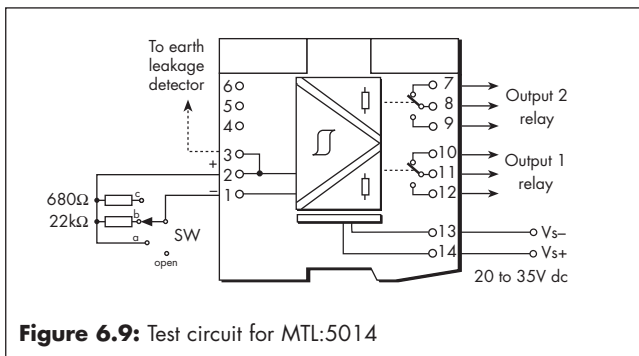

Figure 6.9: Test circuit for MTL5014
Make the relevant safe- and hazardous-area connections shown in figure 6.9 for the tests listed in table 6.3. (Figure 6.8 shows the switch positions for configuring output 2 slave/LFD, output 1 line fault (LF) and phase reversal (PR)).